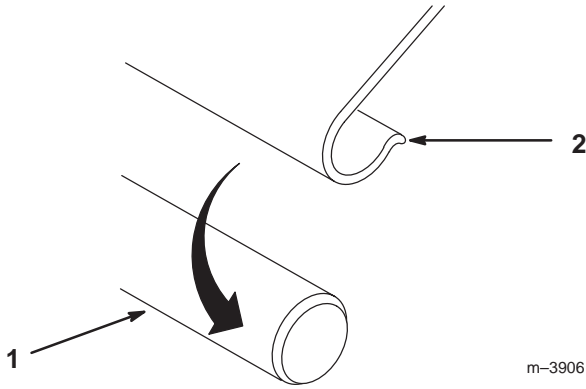

Figure 4
1. Slide upper curved portion of bagger frame into bag and long straight rod down toward pan. Snap “J” strips over frame rods (Fig. 4).